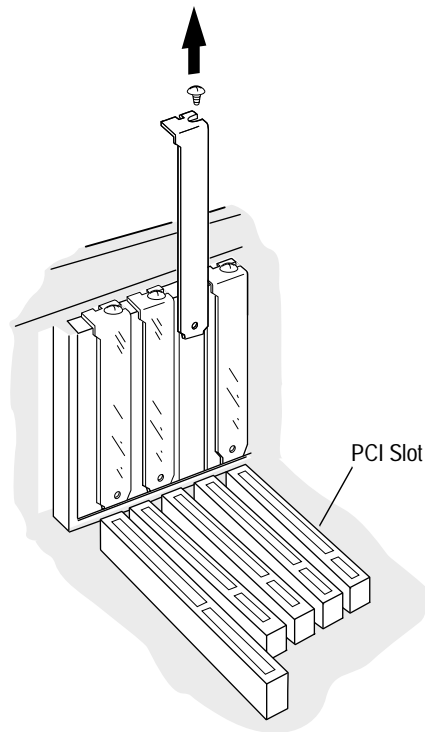

Figure 3-1. Removing the Expansion Slot Cover from the Back of the Computer
- 4 Locate an available PCI slot, and remove the slot cover, as shown in Figure 3-1. (Refer to the computer user documentation for more information.)